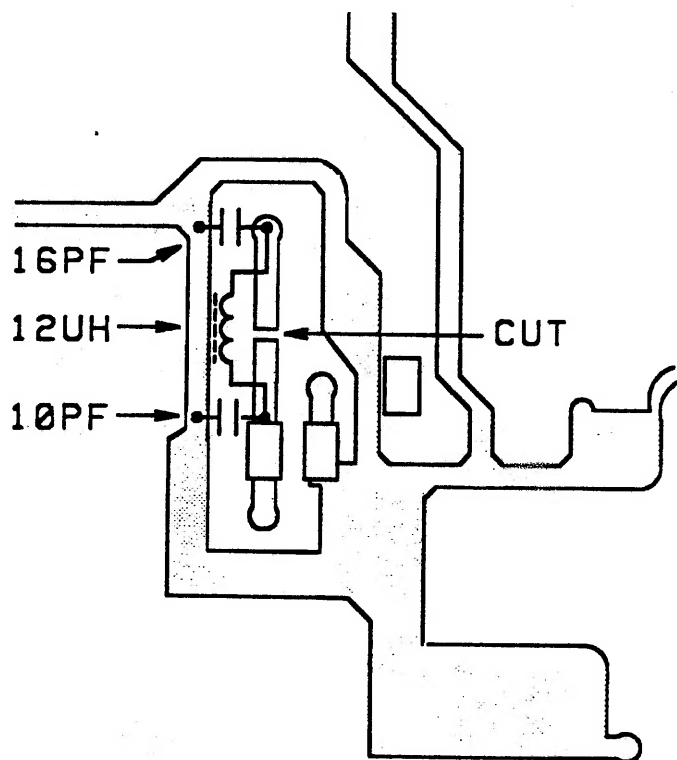

FIGURE 6
9. Cut the foil pattern and add the components shown in Figure 6.